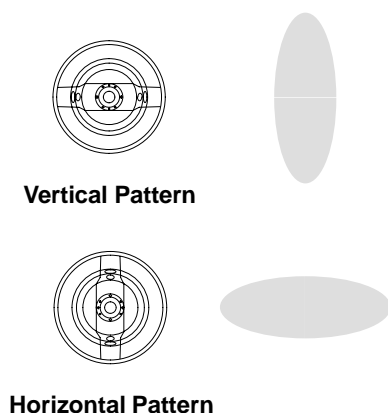

Fig. 18
2. Make sure the system voltage is discharged. Loosen the air cap retaining nut, and rotate the air cap for a vertical or horizontal spray pattern. See Fig. 18. Then tighten the retaining nut until the air cap is held firmly in place; you should not be able to rotate the air cap horns by hand.